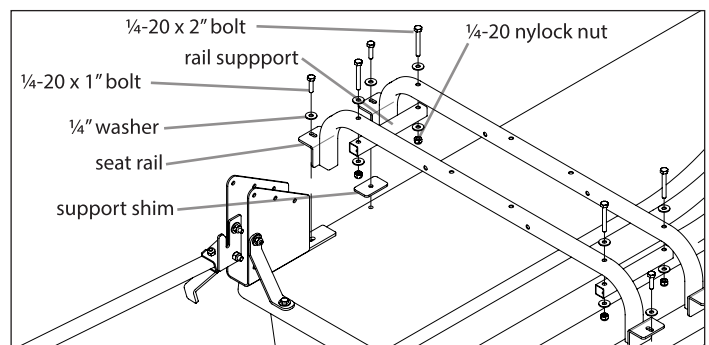

FIGURE 2
3. Attach the (2) seat rails (15033) using (2) support shims (11230), (4) 1/4-20 x 1" bolts, (8) 1/4" washers, and (4) 1/4-20 nylock nuts. The seat rail closest to the front of the sled will use the last slotted hole on the spacer plate (11631) that was installed in Step 1. The remaining seat rail (15033) will require the (2) support shims (11230) to keep the height between the two seat rails consistent. **SEE FIGURE 2**
4. Attach the (2) rail supports (15650) using (4) 1/4-20 x 2" bolts, (8) 1/4" washers, and (4) 1/4-20 nylock nuts. **SEE FIGURE 2**